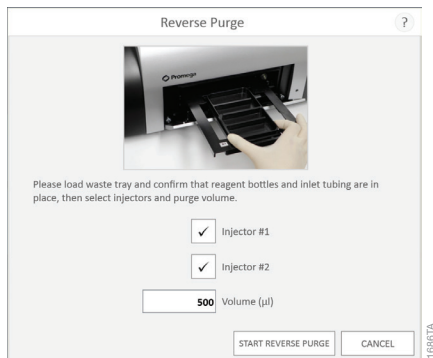

Figure 117. Injector Purge function.
2. Tap the **Start Reverse Purge** button (Figure 117).